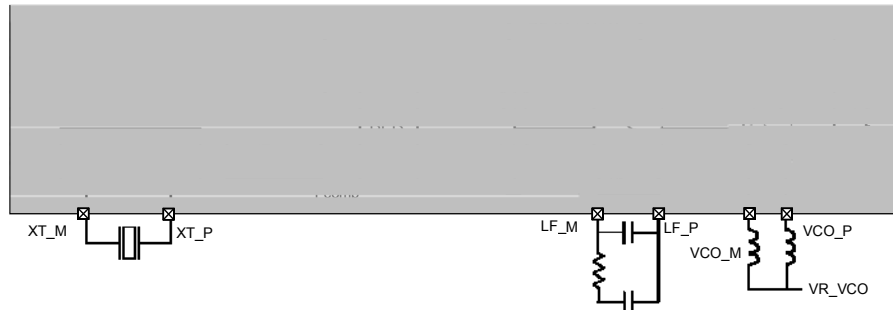

Figure 5: Frequency Synthesizer Description
The crystal oscillator (XO) forms the reference oscillator of an Integer-N Phase Locked Loop (PLL), whose operation is discussed in the following section. Figure 5 shows a block schematic of the RFM63W PLL. Here the crystal reference frequency and the software controlled dividers R, P and S determine the output frequency of the PLL.
As shown in Figure 5 the PLL structure comprises three different dividers, R, P and S, which set the output frequency through the LO. A second set of dividers is also available to allow rapid switching between a pair of frequencies: $R1/P1/S1$ and $R2/P2/S2$. These six dividers are programmed by six bytes of the register `MCPParam` from addresses 6 to 11.